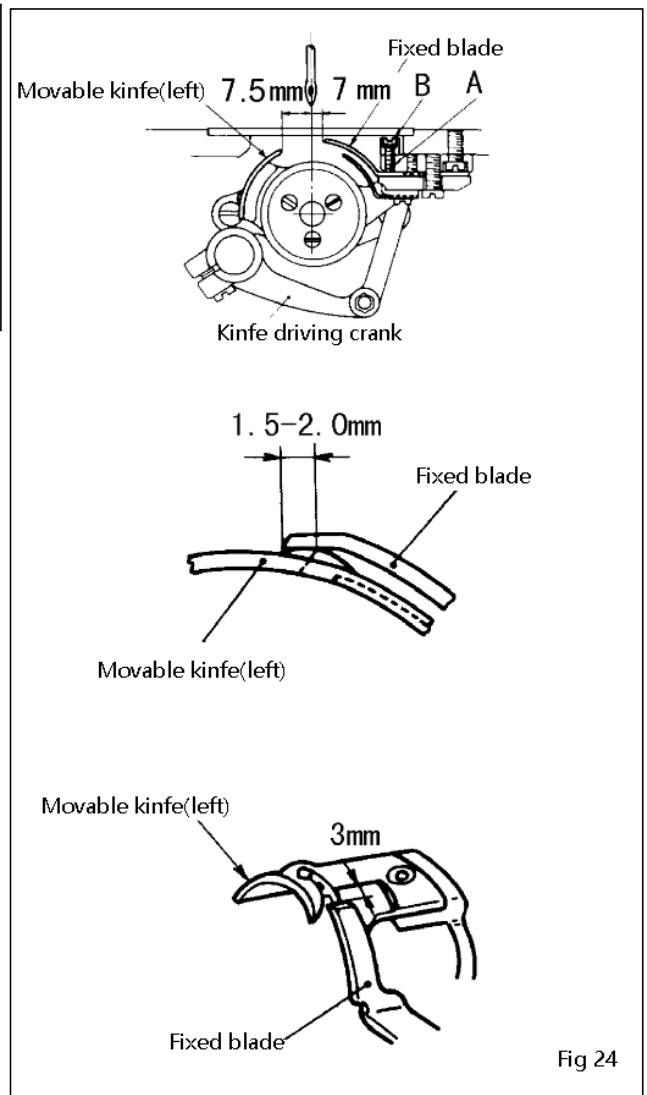

Fig 24
23. ADJUSTMENT OF KNIFE ENGAGEMENT (Fig.24)